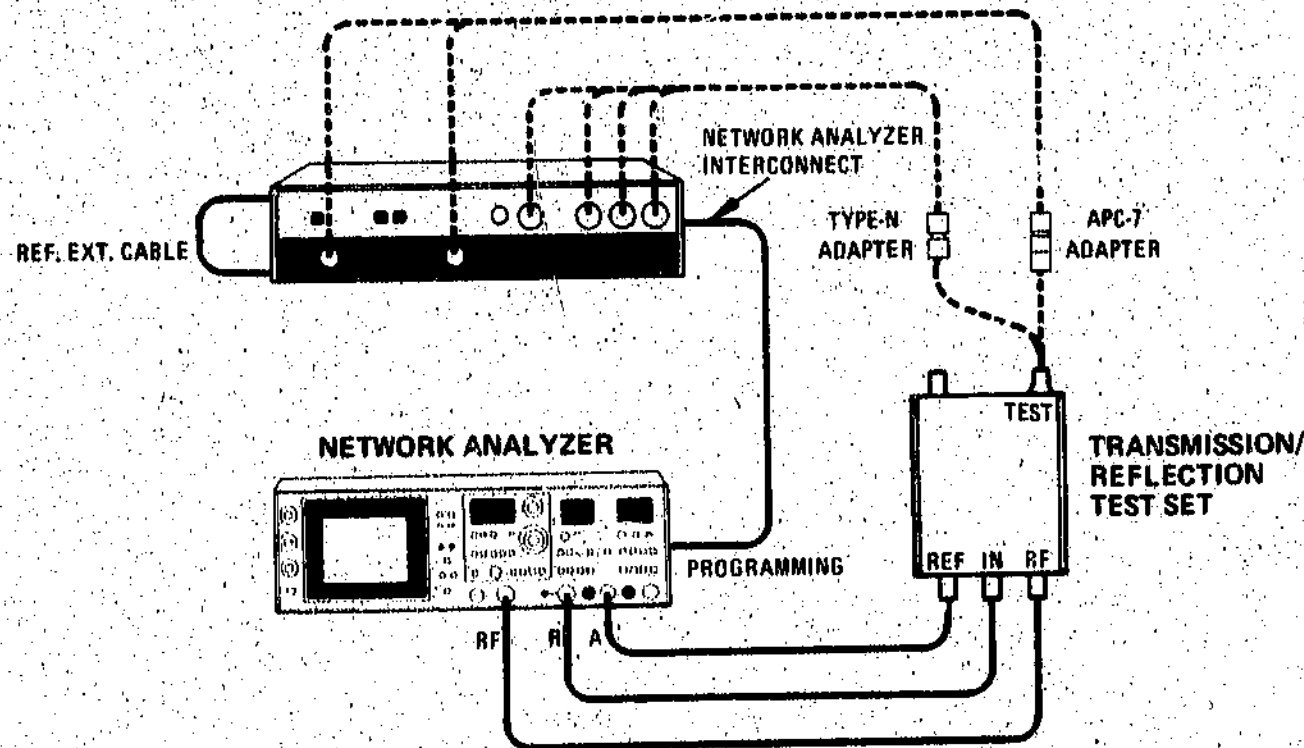

Figure 4-6. Return Loss Test Setup
a. Connect equipment as shown in Figure 4-6. Connect any one of the Reference Plane Extension cable on rear of 8748A. Do not connect Adapters to 8502A TEST PORT.